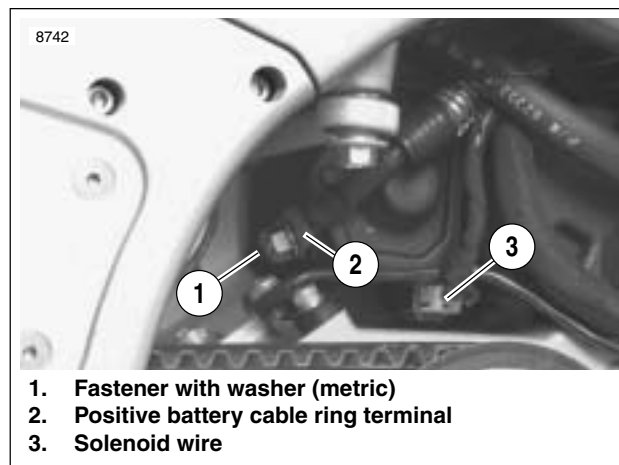
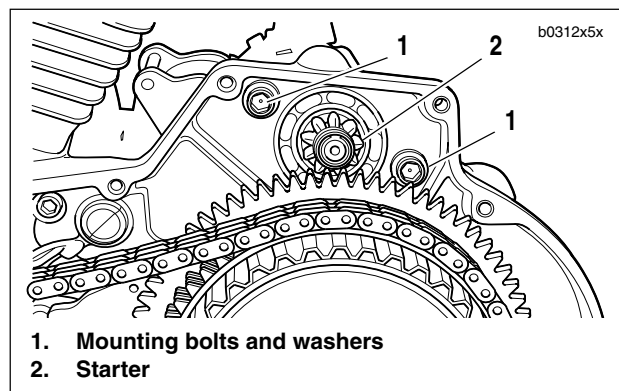

Figure 5-25. Starter Wires (Protective Boot Not Shown)
Figure 5-26. Starter Mounting
2. See Figure 5-25. Connect wiring to starter.
- a. Connect solenoid wire (3).
- b. Attach positive battery cable ring terminal (2) to stud with fastener and washer.
- c. Install nut and washer (1) (metric). Tighten nut to 60-85 **in-lbs** (7-10 Nm).
3. See Figure 5-26. Install both starter mounting bolts and washers. Tighten to 13-20 ft-lbs (18-27 Nm).